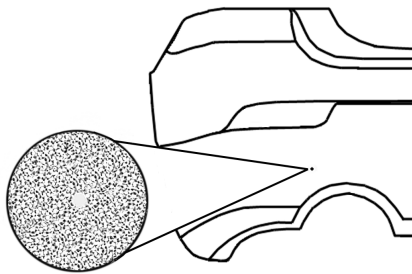
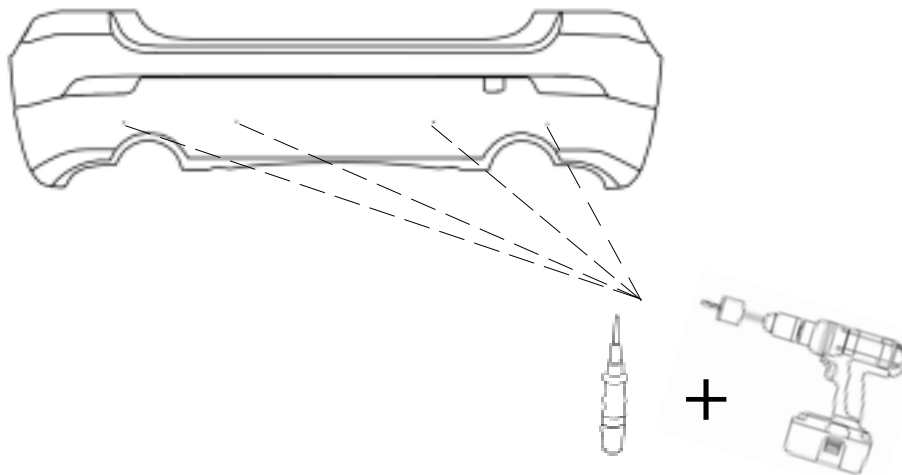

Figure 4.
Figure 5.
- 1.) Locate the four sensor drilling locations, visible as a 2mm untextured circle (Figure 4) on the bumper surface. Approximate locations are shown below in Figure 5. **To work properly, the sensors must be located at the marked locations.**
- 2.) Using an automatic centerpunch (recommended), or a sharp center punch, mark the four locations to be drilled. Using a 30mm hole saw, slowly drill out the four sensor holes (Figure 5). Make sure the hole saw is centered in each of the center punch marks.